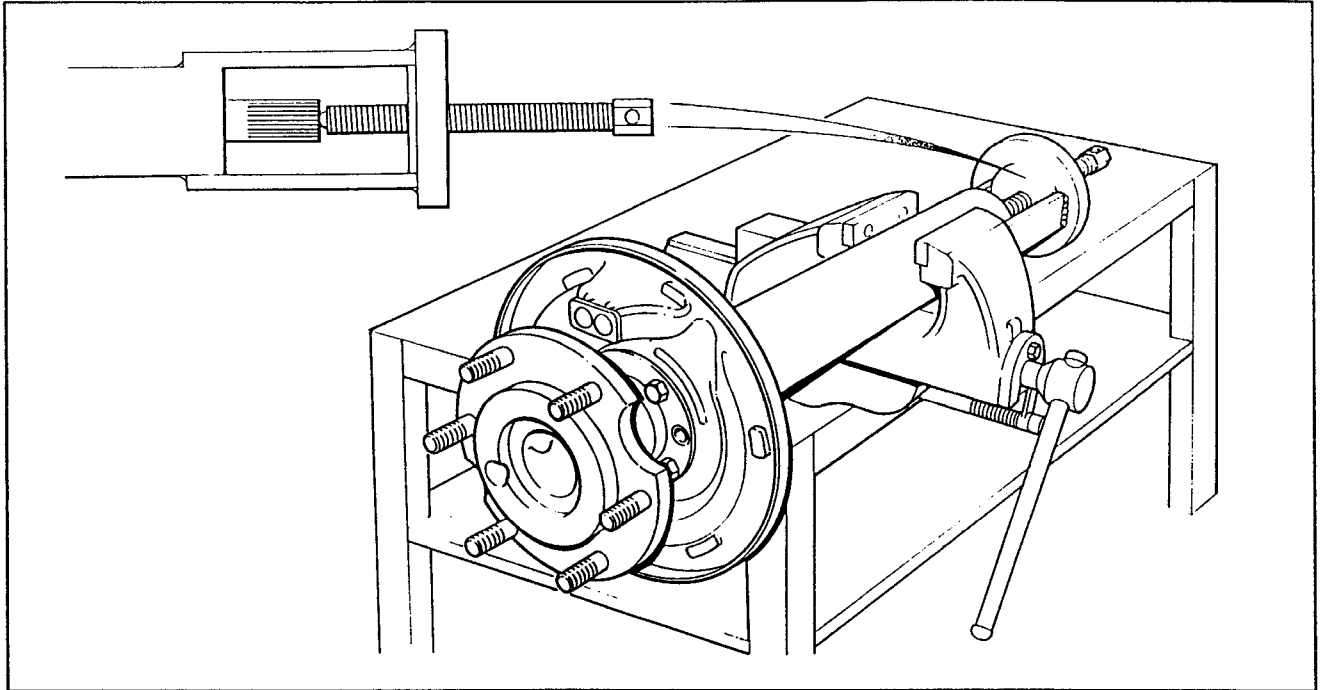

Fig. 4 Rear axle bearing removal
10. Position the axle shaft bearing and bearing retainer remover tool FX 4205 in a vice (Fig. 4) and lubricate the centre screw of the tool. Bolt the axle shaft and bearing assembly to the tool using 4 of the bolts which retained the assembly in the vehicle. Screw in the centre screw of the service tool on to